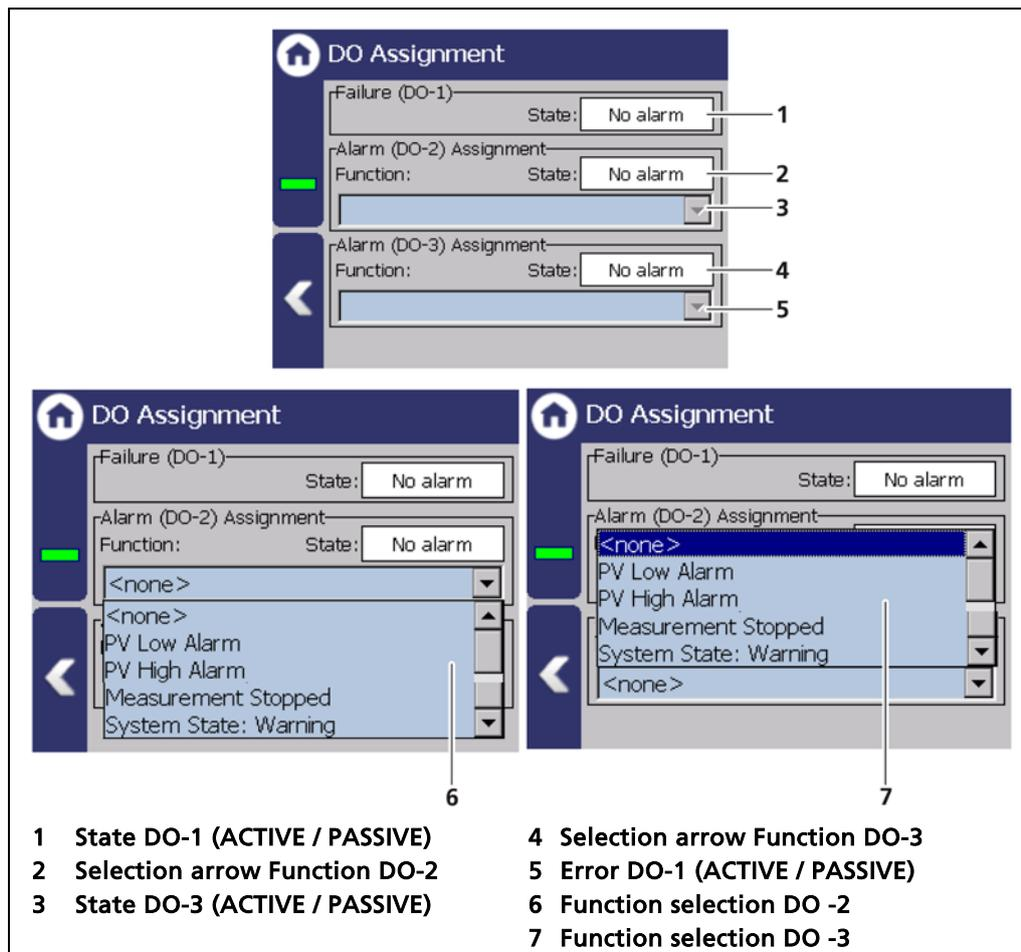

Fig. 98 DO Assignment
If, under "Function" (Fig. 98, item 6, item 7) of a digital output the "Upper PV range" or "Lower PV range" is selected, the relay switches.